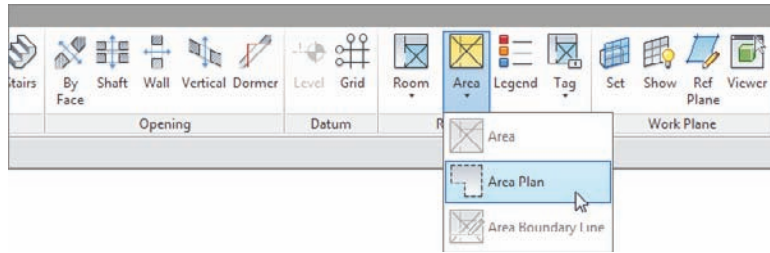

FIGURE 15.24 Clicking the Area Plan button
1. On the Room & Area panel of the Home tab, select Area, and click the Area Plan button, as shown in Figure 15.24.